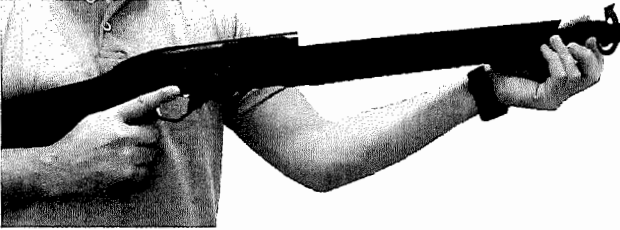

Fig. 1
3. Unscrew the magazine cap by turning it counter-clockwise. (Fig. 1)